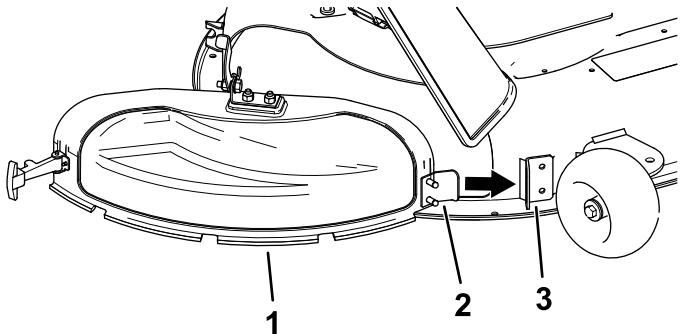

Figure 14
- Angle the metal tab on the discharge cover into the slot in the bracket welded to the mower deck (Figure 14).